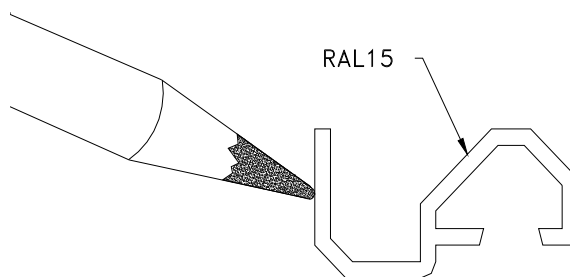

Figure 2
STEP 3. Select a base member section. If the anchor holes have not been predrilled into the base members at the factory, mark the locations for the anchor holes on the selected base member (see Figure 2). Standard anchor hole spacing is 20" O.C., with anchor holes a nominal 3" from each end of the base member. Repeat this procedure for each base member section.